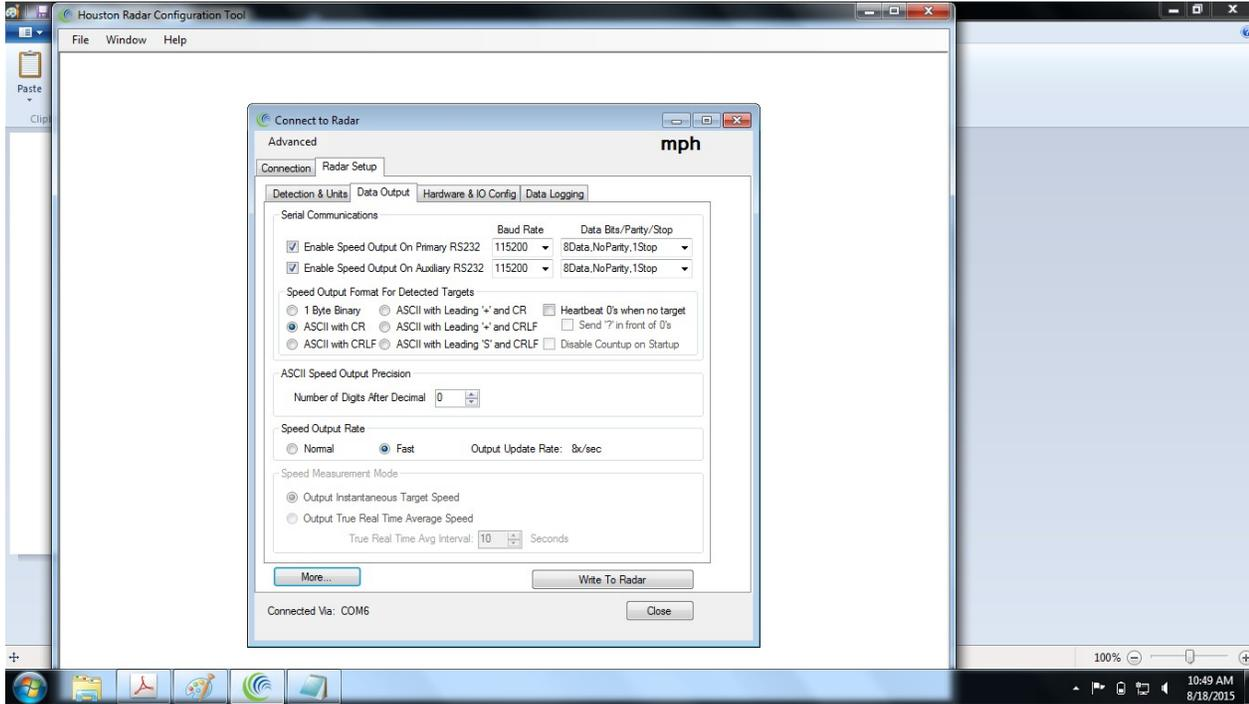

Figure 12
- 9.) Click on the Data Output Tab-The serial communications can be changed if you wish. The one parameter that needs to be set is the Speed Output Rate. Set this too Fast. Click the Write to Radar when done. See Figure 12.